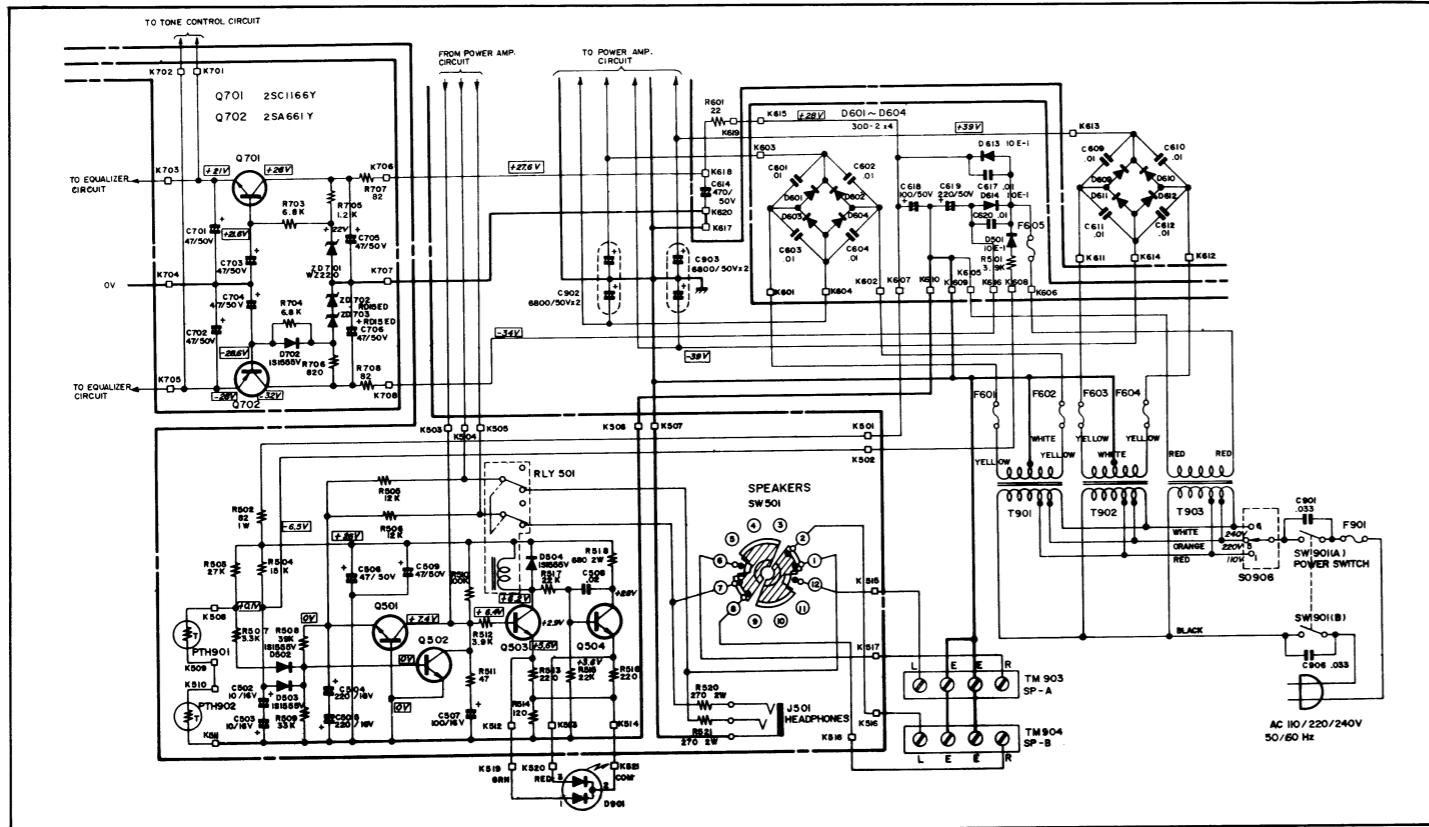

Figure 9
■ RELAY CIRCUIT (See Figure 9)
In the case of the power switch being turned "ON" (See Figure 9)
In the case of the power switch being turned "OFF" (See Figure 9 and 10)
In the case of DC voltage being created at the speaker terminals A or B (TM903, TM904) (See Figure 9 and 14)
In the case of the temperature of heat sink increasing abnormally (See Figure 9 and 12)